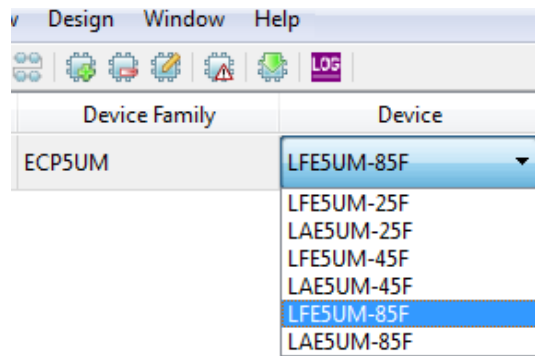

Figure 4.1. Device Selection
3. In the Diamond Programmer main interface, select **ECP5UM** in Device Family and **LFE5UM-85F** in Device as shown in Figure 4.1.